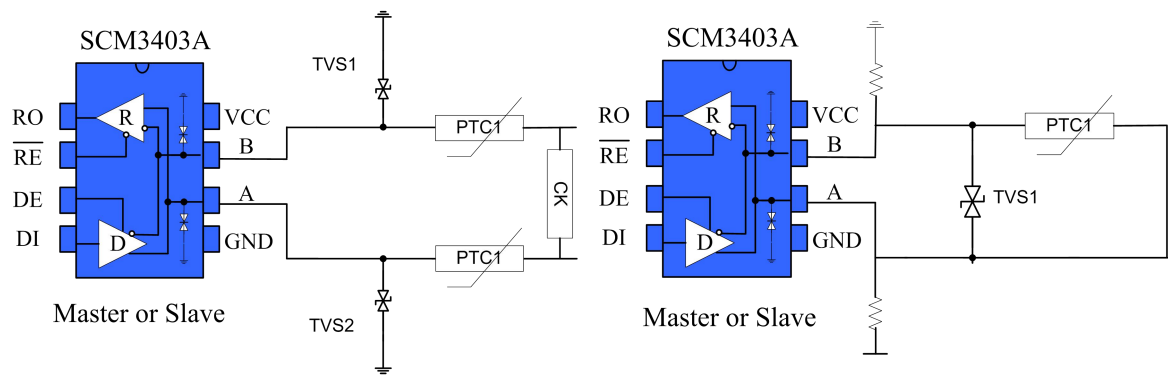

Figure 12. Port safeguard scheme
3.Bus port protection: In harsh environments, RS485 communication ports usually have additional protection against static electricity protection, lightning surge protection, and even need to prevent 380V power supply access to avoid smart meters and industrial control hosts. Damage. Figure 12 shows three common RS485 bus port protection schemes. The first is to connect the TVS device to the protection ground in parallel with the AB port, the TVS device in parallel with the AB port, the thermistor in series with the AB port, and the three-stage protection scheme by connecting the gas discharge tube to the protection ground; the second is AB. Parallel TVS to ground, series thermistor, AB parallel varistor three-stage protection scheme; third is AB connected to pull-down resistor to power and ground, AB connected to TVS, A or B port Connect the thermistor solution.